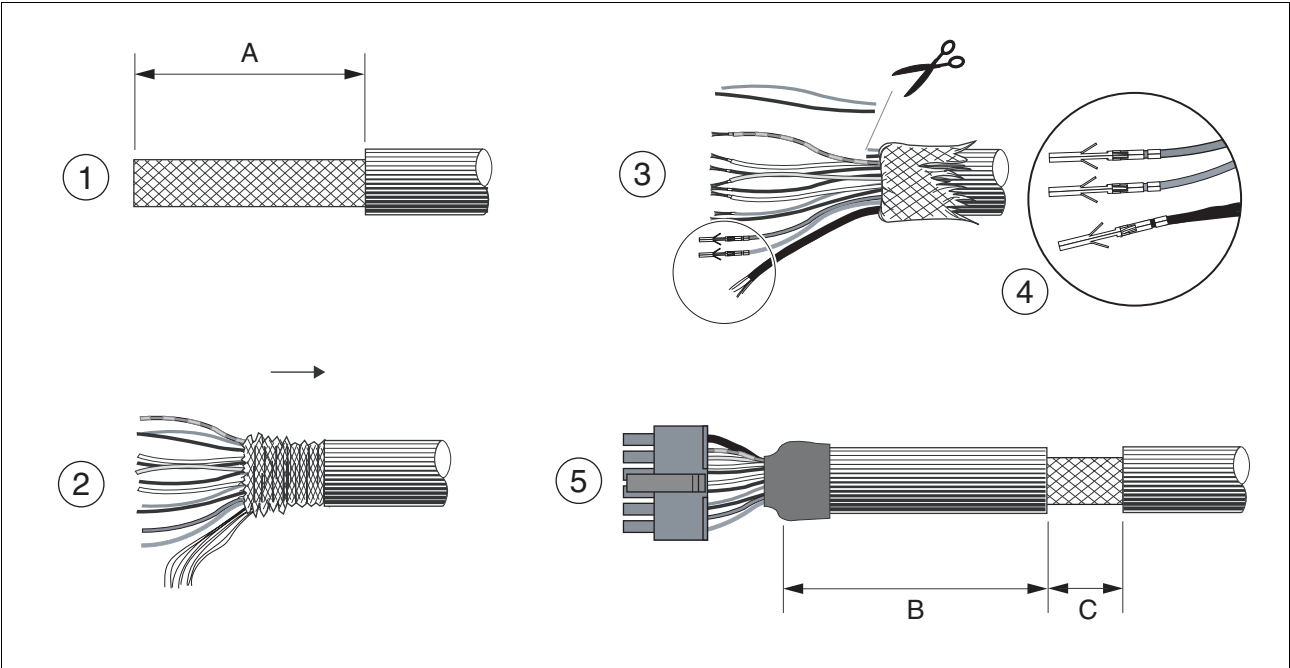

Figure 5.13 Steps (1-5) for fabrication of the sensor cable
- Use prefabricated cables to minimise the risk of a wiring error (from page 11-2). Step 5 in Figure 5.13 must be carried out even with prefabricated cable. The dimensions for positioning the shield on the housing are applicable when the included EMC plate is used.
- If you are not using prefabricated wiring, follow the procedure and the dimensions in Figure 5.13.